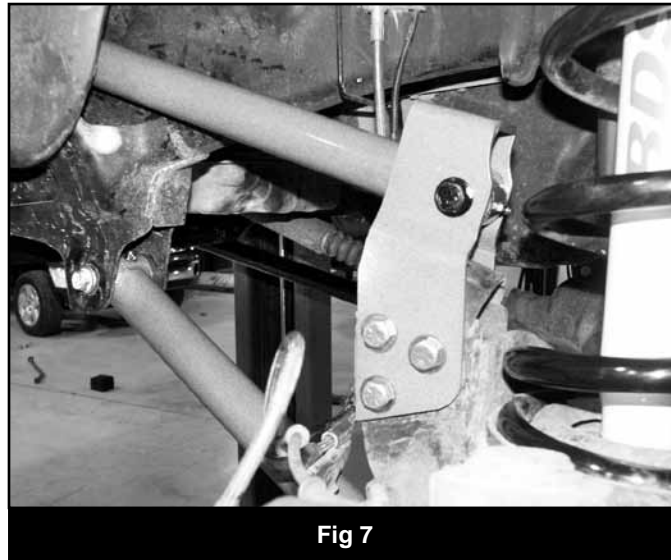

Fig 7
26. Ensure that the brake line is running above the lower control arm and under the upper control arm. Install the new upper control arms in the OE frame mount and new relocation bracket with the original hardware. Install the arms so that the frame end grease fitting is up. *Note: If the passenger's side frame bolt was cut, install the provided 14mm x 150mm bolt, nut and 9/16" SAE washers from the outside of the frame.* Leave hardware loose. (Fig. 7)